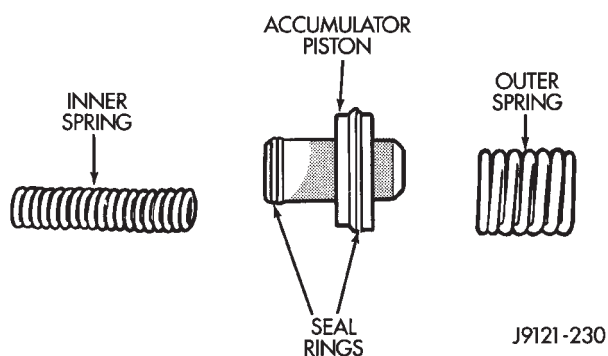

Fig. 17 Accumulator Piston Components
- (4) Check condition of seals on accumulator piston (Fig. 17). Install new piston seals if necessary.
- (5) Place valve body manual lever in low (1 position) so ball on park lock rod will be easier to install in sprag.
- (6) Lubricate shaft of manual lever with petroleum jelly. This will ease inserting shaft through seal in case.
- (7) Lubricate seal rings on valve body harness connector with Ru-Glyde, or petroleum jelly.
- (8) Position valve body on case and work end of park lock rod into and through pawl sprag. Turn propeller